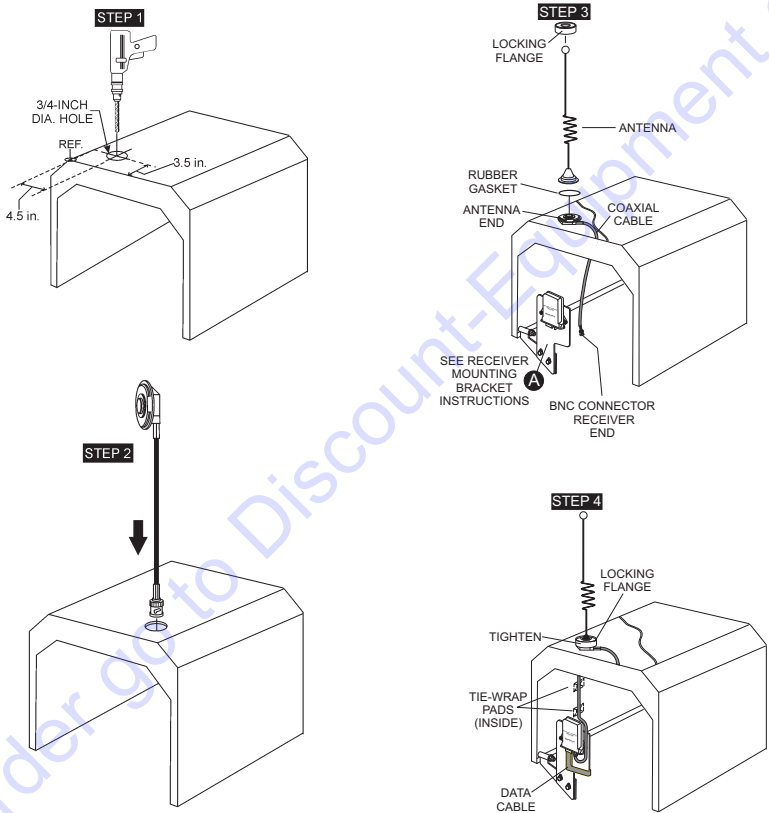

Figure 1. Antenna/Receiver Installation
1. Drill a 3/4" hole into the hood on the C30HDZ as shown in Figure 1.